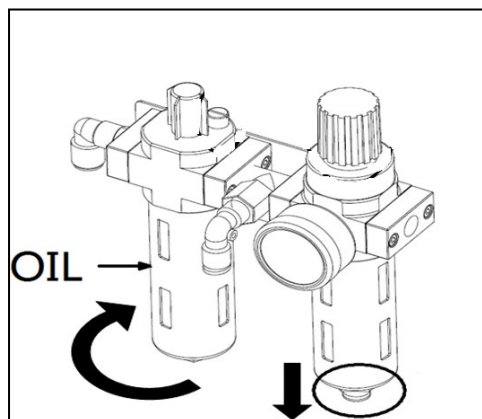

FIG37
- Periodically check and adjust the tension force of the transmission belt and properly adjust the adjustable nuts at the A and B position to adjust the tension of the belt (Fig37).